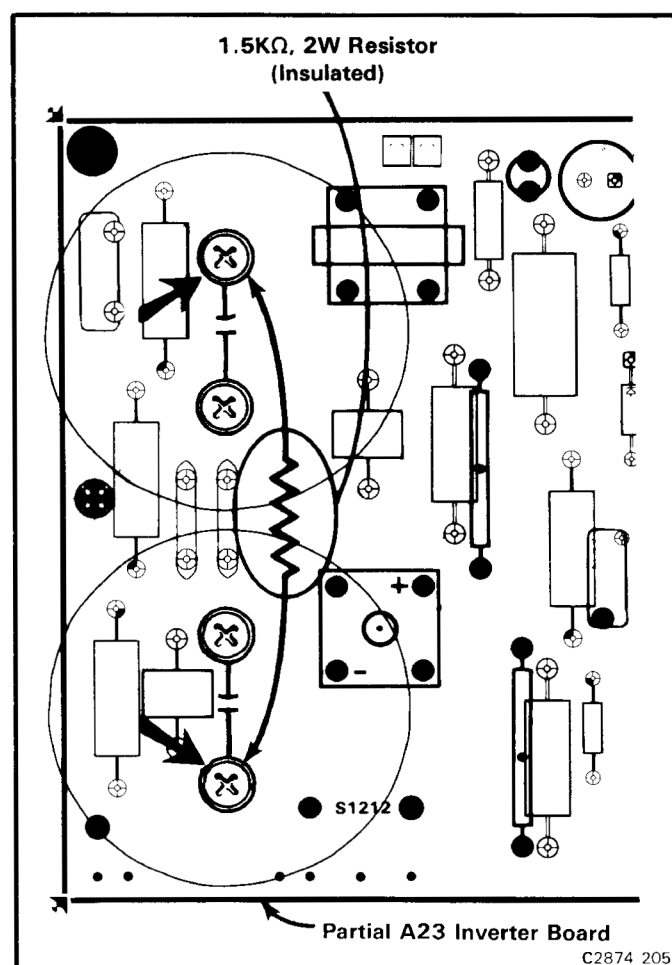

Figure 4-5. Location of screws for discharging line storage capacitors.
- When a low supply voltage is found, disconnect the 7904A from the power source and discharge the line storage capacitors (Fig. 4-5) following the procedure given under Access to Components in the Power-Supply Unit. Check for shorted components in the suspected power supply; also check the filter capacitors for leakage.
- Disconnect the 7904A from the variable autotransformer and discharge the line storage capacitors (Fig. 4-5) following the procedure given under Access to Components in the Power-Supply Unit.
- Attach the test probe from the digital multimeter to one of the screws used to discharge C16 and C17 (see Fig. 4-5). Connect the other test lead to ground. Set the variable autotransformer for 20 volts and turn the 7904A on.
1. Disconnect the 7904A from the power source and discharge the line storage capacitors following the procedure given under Access to Components in the Power-Supply Unit (see Fig. 4-5).